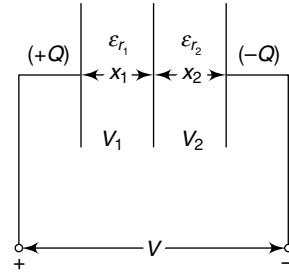

Fig. 1.18 Parallel-plate capacitor with composite dielectric
Let us assume a parallel plate capacitor with two different dielectrics having relative permittivities ϵ_{r_1} and ϵ_{r_2} . The separation of plates are x_1 and x_2 metres, as shown in Fig. 1.18. The plates are of identical cross-sectional area (A) square metre and the charge accumulated in the capacitor is Q coulombs when a p.d. of (V) volts is applied across the capacitor terminals.